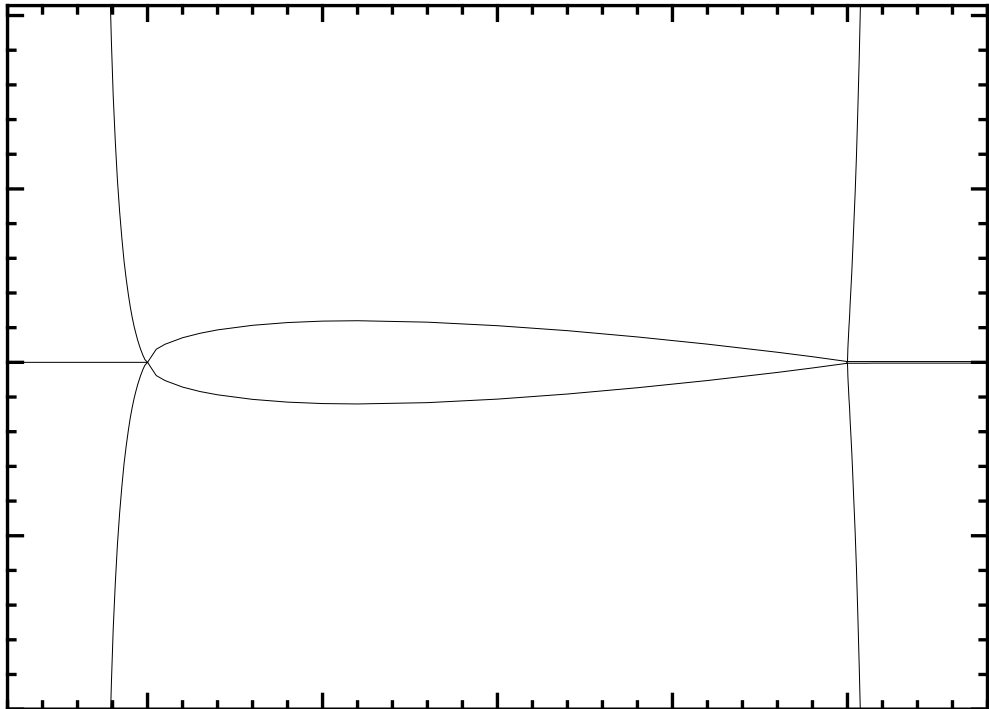

Figure 6.21: Domain decomposition for Test Case 8
3. Domain decomposition plots (figures 6.21 and 6.22)